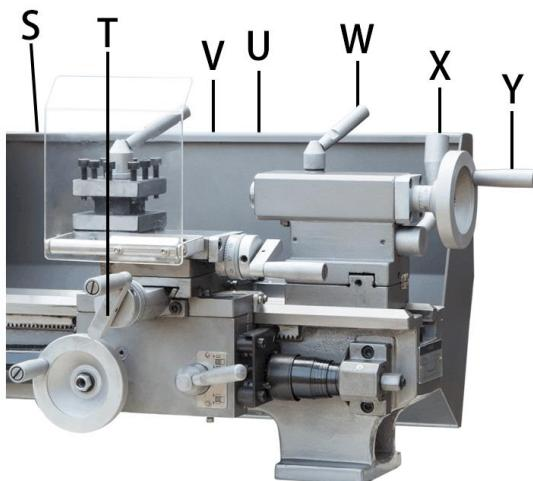

Figure 10-6: Machine controls
Apron travel (S, Fig 10-6), cross travel (T) and top slide travel (U) can be operated for longitudinal and cross feeding.
Move the half-nut lever (V, Fig 10-6) down, to engage the automatic longitudinal feed. Move it up to disengage
Engage the halve nut (V, Fig 10-6).